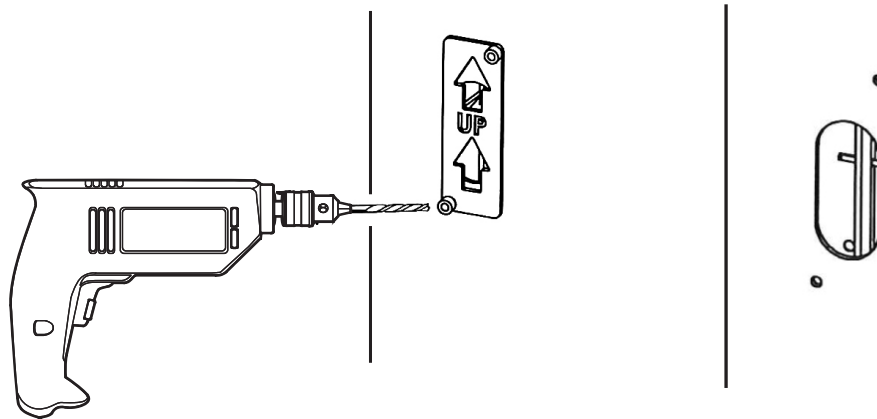

Figure 29
3. Using a #7 drill bit, drill two (2) holes completely through door, making sure drill remains square to face of door. (Figure 29)